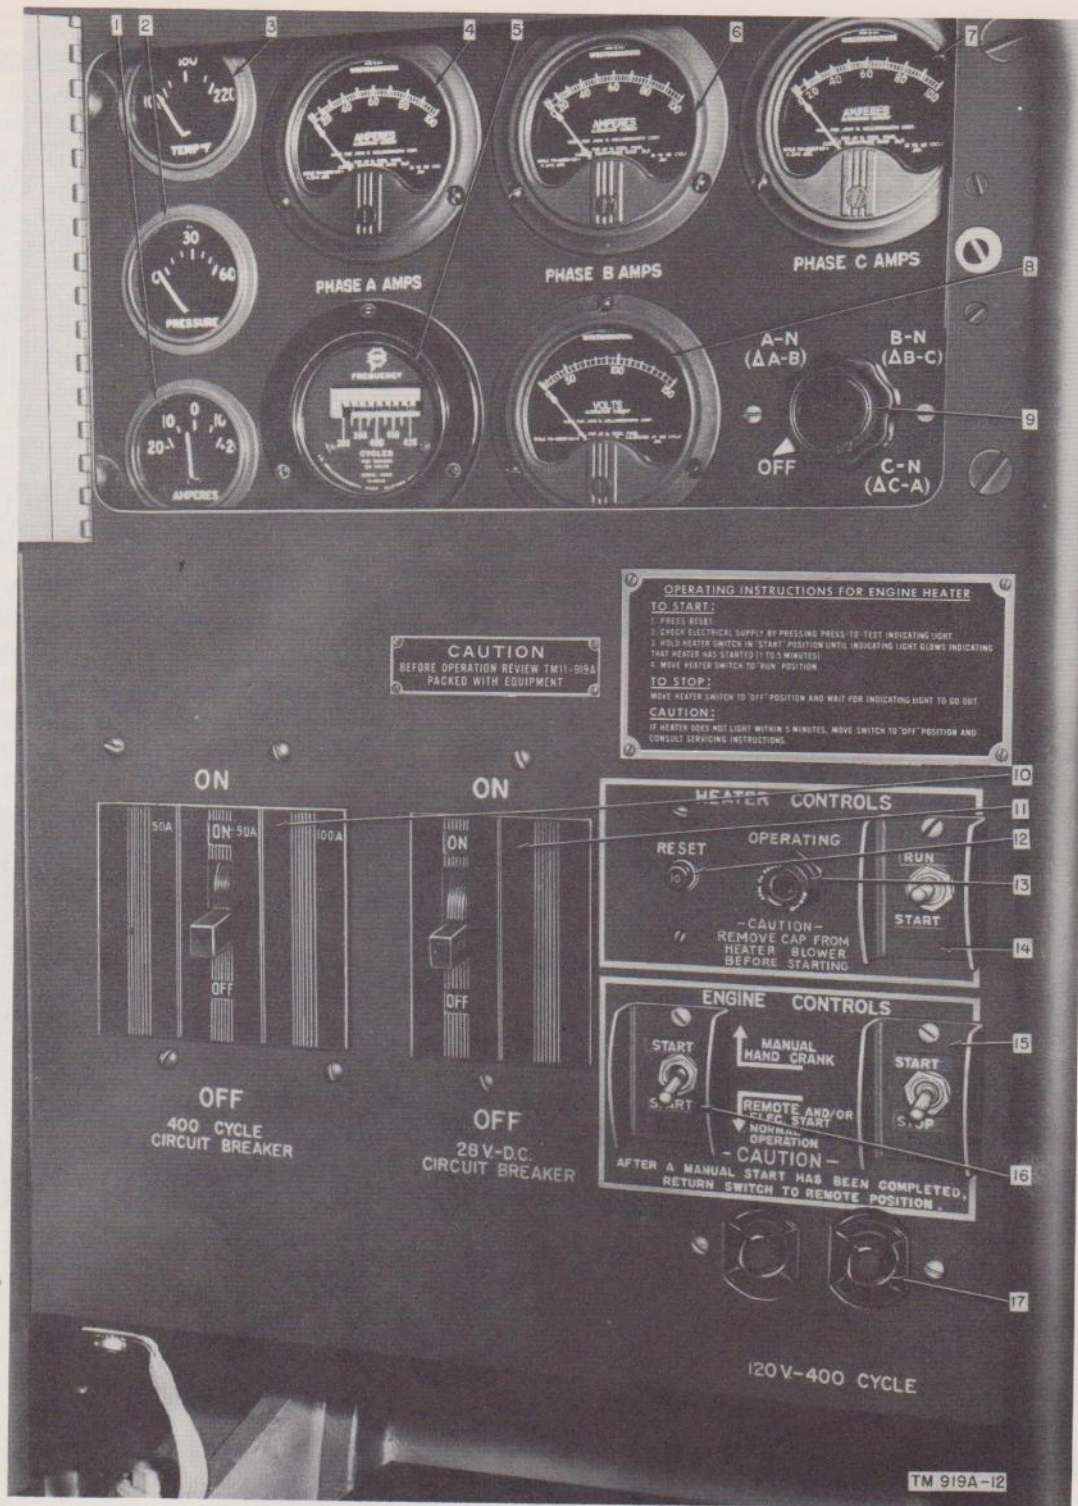

Figure 12. Instrument and control panel.
- (1) *Ignition switch* (16, fig. 12). A toggle-type switch, located on the control panel, selects the ignition circuit for MANUAL HAND CRANK or REMOTE AND/OR ELEC. START NORMAL OPERATION. If the unit is to be started by hand cranking, place the switch in the MANUAL HAND CRANK position; if the set is to be started remotely or by the START-STOP switch (subpar. (2) below), place the switch in the REMOTE AND/OR ELEC. START NORMAL OPERATION position.
- (2) *START-STOP switch* (15, fig. 12). The three-position, START-STOP toggle switch is located on the control panel. To start the set, hold the switch in the START position; to stop the set, place the switch in the STOP position. The switch is designed so that the actuating handle returns to the center position when released from the START position.
and a variable voltage resistor. The 28-V. D. C. CIRCUIT BREAKER (11, fig. 12), mounted on the control panel, serves as the main load switch and the overload trip in the dc circuit. To connect the load, push the trip lever to ON; to disconnect the load, push the trip lever to OFF. The circuit breaker trips off automatically (par. 19b(1)) whenever the circuit becomes overloaded. To reset the circuit breaker after it has tripped, push the lever all the way down to the OFF position and then up to the ON position. The variable resistor on the dc voltage regulator (3, fig. 4) has a range of from 25 to 30 volts. Turn the slotted shaft of the variable resistor until the desired voltage is reached.
*c. Winterization System* (fig. 12). All the winterization controls are located on the control panel.
- (1) *Circuit breaker* (RESET). The circuit breaker (RESET) (12) is used as the main switch to connect and disconnect the winterization system circuit. Push in the RESET button all the way to connect the system; pull out the button to disconnect the system. The circuit breaker trips off automatically (par. 19c(1)) whenever the circuit becomes heavily overloaded. To reset the circuit breaker after it has tripped, push in the RESET button.
- (2) *Heater RUN-START switch*. The heater RUN-START switch (14) is used to start and run the winterization heater. To start the heater, after the RESET button has been pushed in (subpar. (1) above), hold the switch in the START position 2 to 4 minutes. After the heater OPERATING indicator lamp (subpar. (3) below) flashes on, place the switch in the RUN position. To shut off the heater, place the switch in the off (center) position.
- (3) *Heater OPERATING indicator lamp*. The heater OPERATING indicator lamp (13) shows when the heater is in operation (par. 19c(2)). The lamp also may be used as a check on the power supply to the heater. To check the power supply, be sure the circuit breaker (RESET) button (subpar. (1) above) is in all the way. Then press the lamp. If power is available, the lamp will glow.
- (1) *Circuit breaker* (fig. 12). The 400 CYCLE CIRCUIT BREAKER (10) mounted on the control panel, serves as the main load ON-OFF switch and the overload trip in the ac circuit. To connect the load, push the trip lever to ON; to disconnect the load, push the trip lever to OFF. The circuit breaker trips off automatically (par. 19d(1)) whenever the circuit becomes heavily overloaded. To reset the circuit breaker after it has tripped, push the lever all the way down to the OFF position and then up to the ON position.
*e. Miscellaneous.* The 120V-400 CYCLE duplex receptacle (17, fig. 12) mounted on the control panel, is a means of connecting external power for trouble-shooting lamps, fans, or similar equipment requiring 120-volt, 400-cycle power. The receptacle is the Twistlock type and contains two connectors.
- (1) *Circuit breaker* (11, fig. 12). The 28-V. D.C. CIRCUIT BREAKER, mounted on the control panel, trips automatically if the circuit becomes heavily overloaded. The thermal trip release is factory-set for time-delay operation and the circuit breaker is sealed. To reset or manually operate the circuit breaker as a load switch, refer to paragraph 18b.
- (1) *Heater circuit breaker* (12, fig. 12). The heater circuit breaker (RESET) trips automatically when the heater circuit becomes heavily overloaded. For use as a master switch and for the method of resetting, refer to paragraph 18c(1).
- (2) *Heater OPERATING indicator lamp*. The
*a. Engine Instruments* (fig. 12). All the engine instruments are located on the instrument panel.
- (1) *Oil-pressure gage*. The oil-pressure gage (2) indicates the pounds per square inch of oil pressure being delivered to the engine bearings. The gage is of the electric type and will not operate unless the batteries are connected. The gage has a 0 to 60-pound
- (2) *Coolant temperature gage.* The coolant temperature gage (3) indicates the temperature of the engine coolant. The gage is of the electric type and will not operate unless the batteries are connected. The scale reading on the gage is from 100° F to 220° F. Normal engine operating temperature is from 165° F to 185° F. If, after warm-up, abnormal temperature is indicated on the gage, proceed as follows: check the coolant and the engine oil level; check the water pump, fan, fan belt, and thermostatic valve for proper operation. Never operate an overheated engine.
- (3) *Battery-charging ammeter.* The battery-charging ammeter (1) indicates the rate in amperes at which the batteries are being charged or discharged. The ammeter is calibrated to read from -20 to +20 amperes. Under normal conditions, a charging rate of +½ to +5 amperes should be indicated. A higher rate may be indicated if the batteries are discharged. During cold temperatures that require the use of the winterization system for cold engine starting, the use of the heater will indicate a negative (discharge) reading on the ammeter. Starting the heater will show a -12-ampere reading from 1 to 5 minutes; and running the heater will show approximately -¾ ampere. Negative readings, while the unit is operating, may also indicate that the battery leads are reversed or that there is a short circuit in the charging system. No reading indicates a faulty charging system or a loose or broken connection.
b. *Alternator Instruments* (fig. 12). All the alternator instruments are located on the instrument panel.
- (1) *Voltmeter.* The voltmeter (8) is connected to read phase voltage and has a maximum scale reading of 150 volts. A voltmeter selector switch (9), provides facilities to check the voltage from phase to neutral (A-N, B-N, and C-N) when the unit is connected in wye and from phase to phase ( $\Delta$ A-B,  $\Delta$ B-C, and  $\Delta$ C-A) when the unit is connected in delta. With the alternator operating under full balanced load, the voltmeter will indicate 120 volts in all phases. Under no load, the voltmeter will register about 124 volts. If the voltage is too high or too low, check the frequency meter and adjust the engine speed governor as instructed in paragraph 25b.
- (2) *Frequency meter.* The frequency meter (5) indicates the cycles per second (cps) of the current being produced by the alternator. Engine speed determines the frequency of the alternator output. The meter scale provides for indications of 380 to 420 cps. Under stable operation at full load, the frequency meter must indicate 400 cps. Any deviation from the desired reading can be adjusted by changing the engine speed as described in paragraph 25b.
- (3) *Ammeters.* The three ammeters (4, 6, and 7, fig. 12), connected to the alternator circuit by current transformers, register phase current. The ammeters are designated PHASE A AMPS, PHASE B AMPS, and PHASE C AMPS and provide a maximum scale reading of slightly more than 100 amperes. When the alternator is connected for single-phase, 120-volt output (delta), the PHASE A AMPS and PHASE C AMPS ammeters will register 104 amperes under full load. The PHASE B AMPS ammeter will indicate zero. When the alternator is connected for three-phase, 208-volt output (wye), all the ammeters will register 43.5 amperes under full load. Abnormal ammeter readings indicate an unbalanced load, defective ammeters, or defective lines to the load.